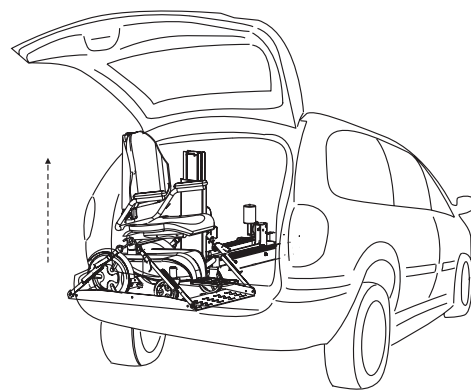

Figure 3-6
5. Double-check that the mobility device is secured properly on the platform. While holding the hand control, stand to the side and away from the lift. Press the “Up” button. When the platform stops retracting, release the button. The platform will automatically lock itself into a travel position. Close the door slowly, making sure that no part of the mobility device or other objects in the cargo area contacts the door. **See Figure 3-6.**
1. Each corner of the AL690 platform has a restraint attached, with a hook on the end. Place each hook in either the anchor plate slot or in each U-bolt. See Figure 3-6